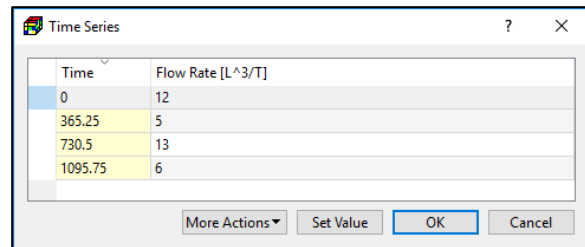

Figure 49. The Time Series dialog box
- **Time Series of Specified-Flow** or **Time Series of Specified-Head:** The Edit button is activated only if the Boundary Type is Specified-Head or Specified-Flow. Click the Edit button to open the Time Series dialog box (Figure 49) where you can edit an array of specified-flow or specified-head values for the current FHB1 cell instance. The features of the Time Series dialog box are as follows: